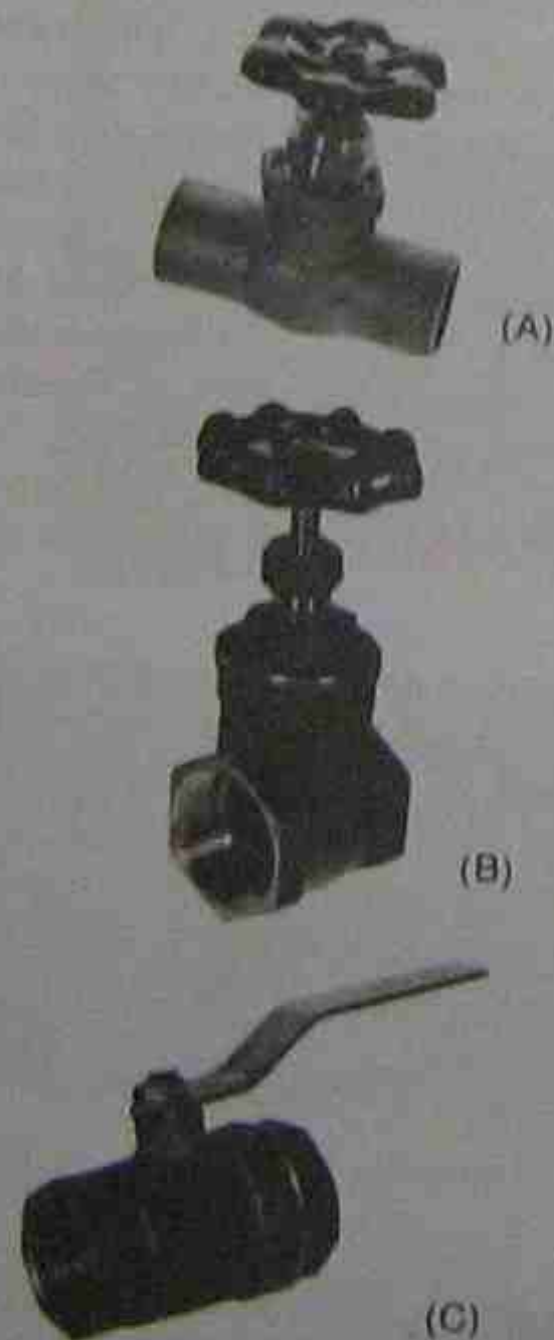

Figure 34-35. Hand-operated valves. (A) Globe valve. (B) Gate valve. (C) Ball valve. Photos by Bill Johnson
**Hand-operated valves.** Hand-operated valves are used to isolate a particular section of the system. This may be necessary when the system is shut down for a period of time or when it is being serviced. The three common types of hand-operated valves are the *globe valve*, the *gate valve*, and the *ball valve*, Figure 34-35. The globe valve is used to shut off the system or to control the amount of flow. It offers resistance to the flow even when open, and it does not fully drain when installed horizontally. Gate valves are used as shutoff valves;